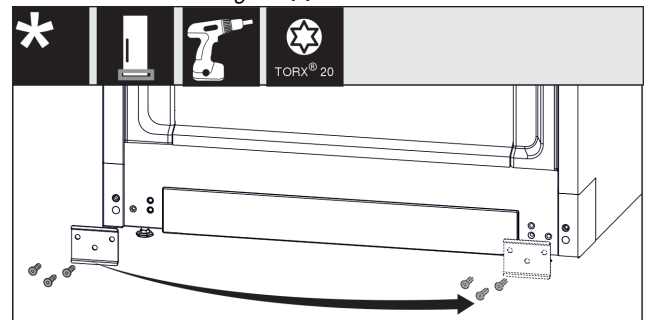

Fig. 17
- ▶ Unscrew the metal plate, move it to the other side and screw it on again. Fig. 17 (1)